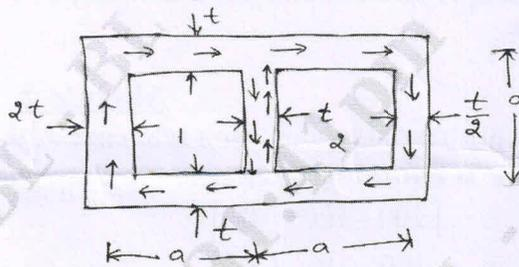

Fig.Q8(b)
- b. Two-cell tabular section whose wall thicknesses are as shown in Fig.Q8(b). If the member is subjected to a torque T, determine the shear flows and the angle of twist of the member per unit length.